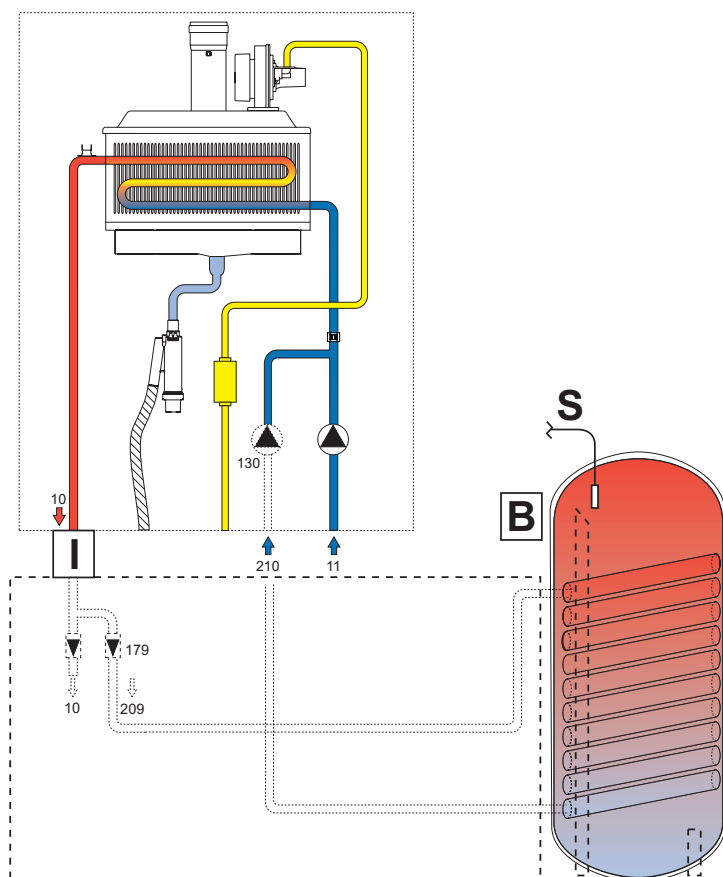

fig. 15 - Hot water tank connection kit
The optional kit - is available for connection to an external hot water tank. The kit, which comprises a **circulating pump** (ref. 130 - fig. 15), **hot water tank probe** (ref. S - fig. 15) and **plumbing fittings**, must be installed inside the boiler according to the instructions provided. Then connect to the fittings in the boiler.